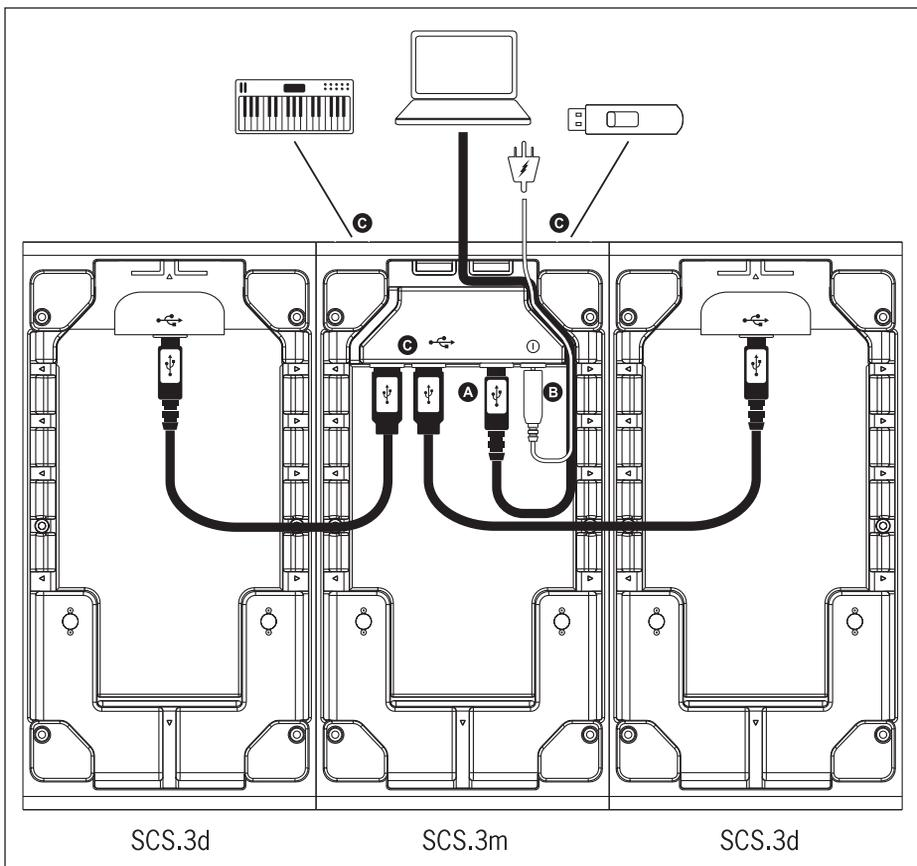

Figure 2.3
- C. Thanks to the SCS.3m integrated USB hub and the wire management options, you can now connect the two SCS.3d’s either by routing the USB cables through the sides of the SCS.3d’s and SCS.3m, or out the back of the SCS.3d and using the two rear panel USB connectors. The additional two USB sockets can be used to add peripheral devices such as flash storage, other controllers, or any other USB peripheral. (Figure 2.3)